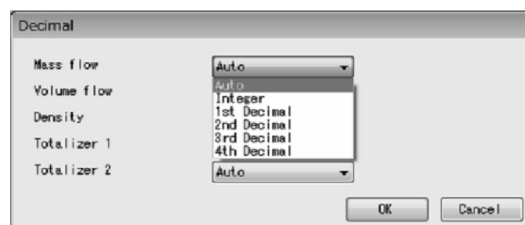

Fig.88
- ③ Click the triangle on the right side of each item as shown in Fig. 88, and select the decimal points to set from the drop-down lists.